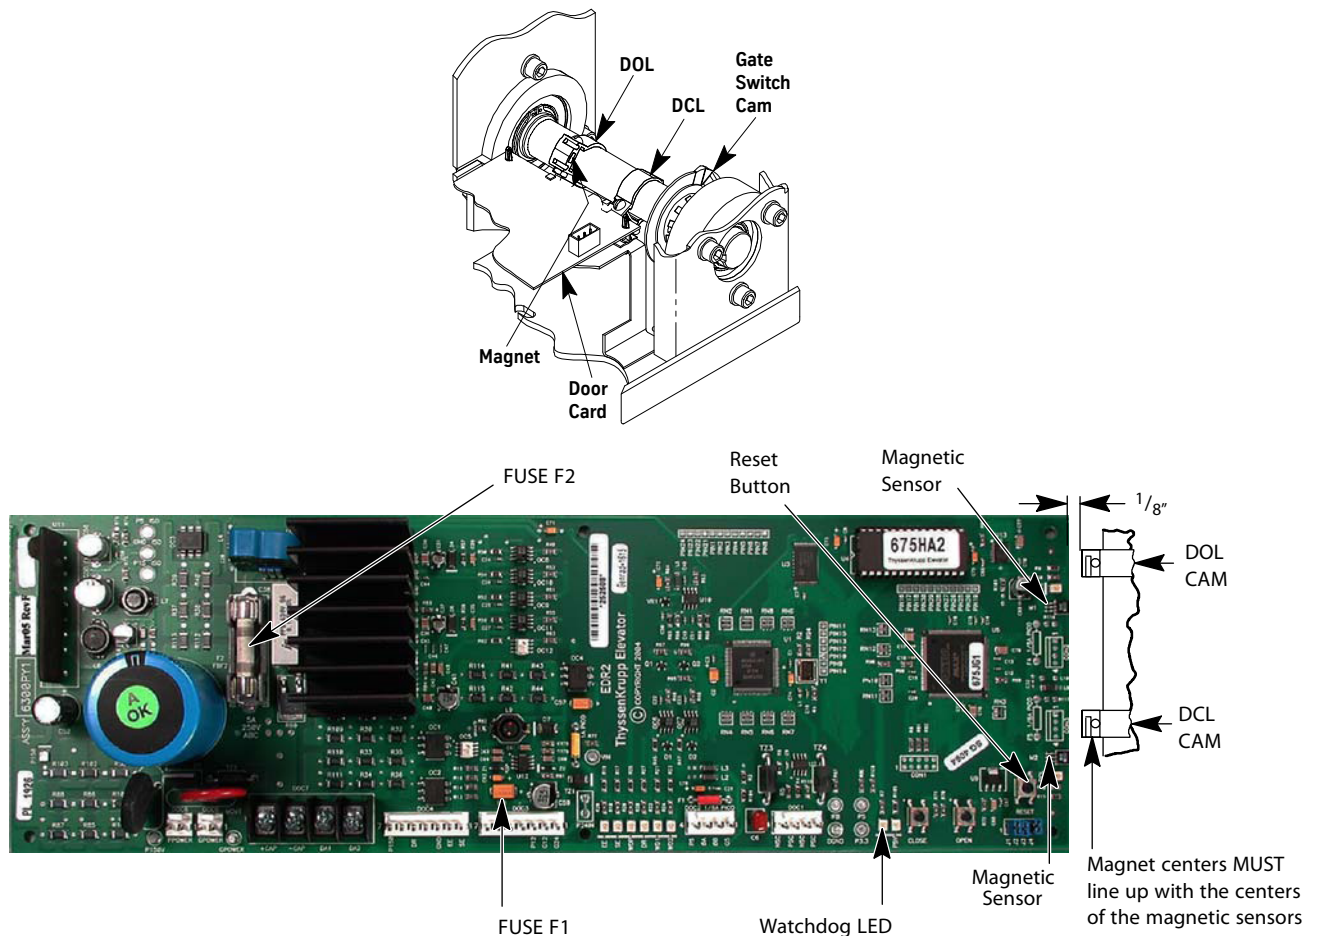

Figure 6 - Door Operator Limit Cams and Door Card
2. Verify that the door card is 6300PY1, and the U4 software is 675HA_. See Figure 6 on page 15 for the remaining steps in this procedure.